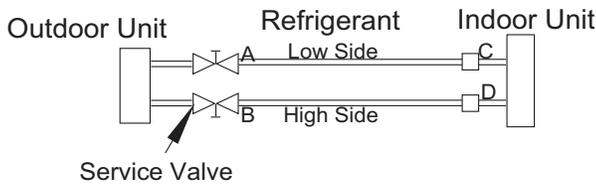

Fig. 19 – Service Valve
1. Completely tighten the flare nuts (A, B, C, D, E). Fully open all circuits service valves. Connect the manifold gage charge hose to the charge port of the low side Master service valve to evacuate all circuits at the same time (see Fig. 19).